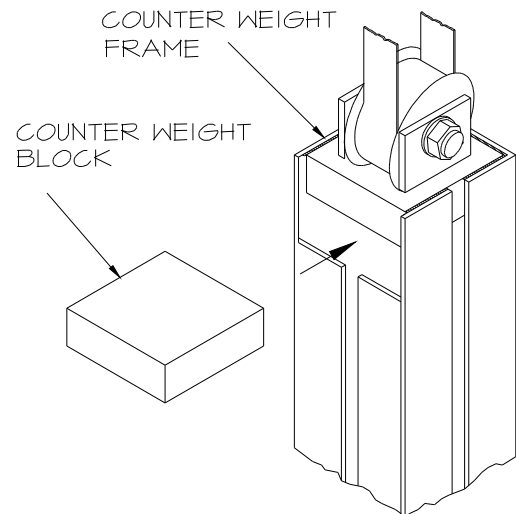

FIG. 11C
- **Slide one group of blocks** into a Counterweight Frame (Figure 11c).